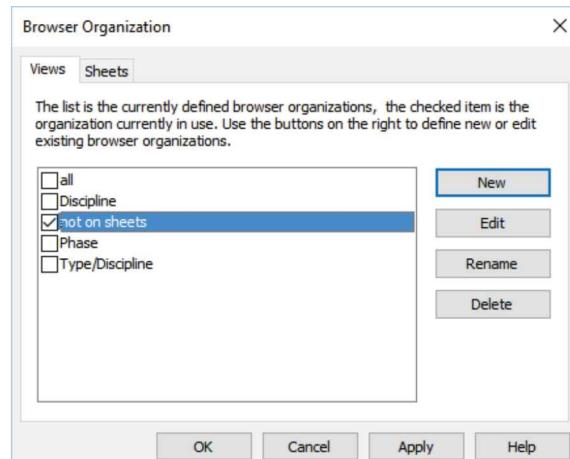

FIGURE 15-1.10 Browser Organization dialog
30. On the *Views* tab, click the checkbox next to **not on sheets** (Figure 15-1.10).